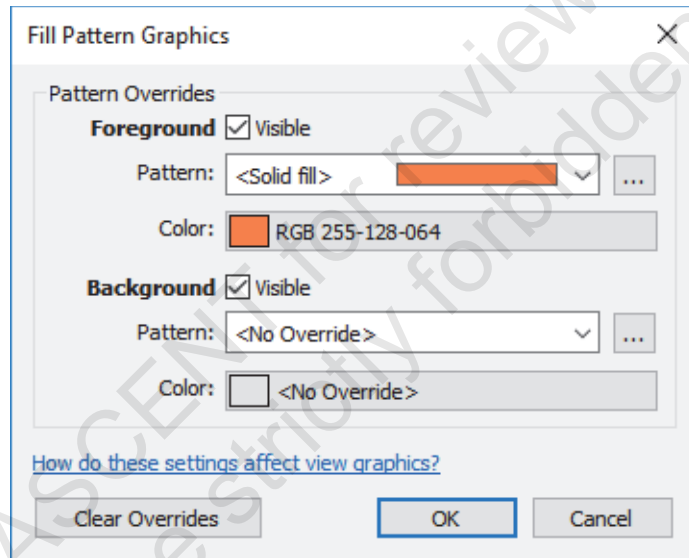

Figure 1–125
11. For the Supply and Return filters, set the *Projection Lines* override *Color* to **Black**. Then, clear the *Visibility* check on the Exhaust filter, as shown in Figure 1–126.